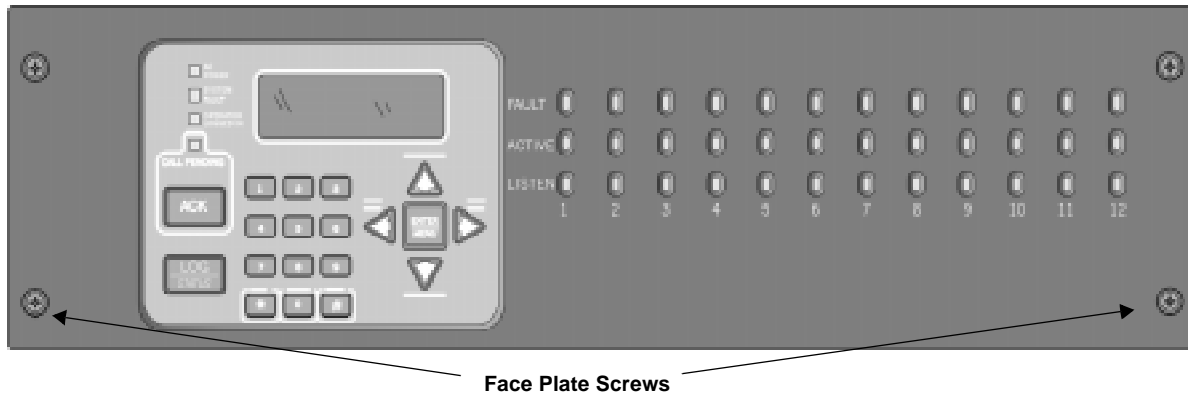

Figure 3-1 Model 9800 Front View
1. Open the 9800's front panel by unscrewing the four front plate retaining screws located on the front of the panel. (See Figure 3-1 for front plate retaining screw locations.)
1. Remove the front panel of the 9800 receiver by loosening the front plate retaining screws. (See Figure 3-1 for front plate retaining screws locations.)
5. Replace the front panel of the 9800 receiver by tightening the front plate retaining screws. (See Figure 3-1 for front plate retaining screws locations.)